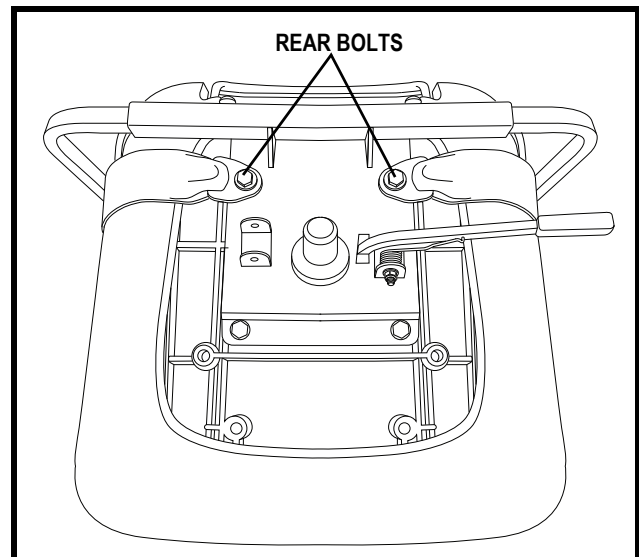

Figure 22. Positioning Belt Bolts
2. Place the seat upside down so that you can see the bottom of the seat base. See **figure 22**.